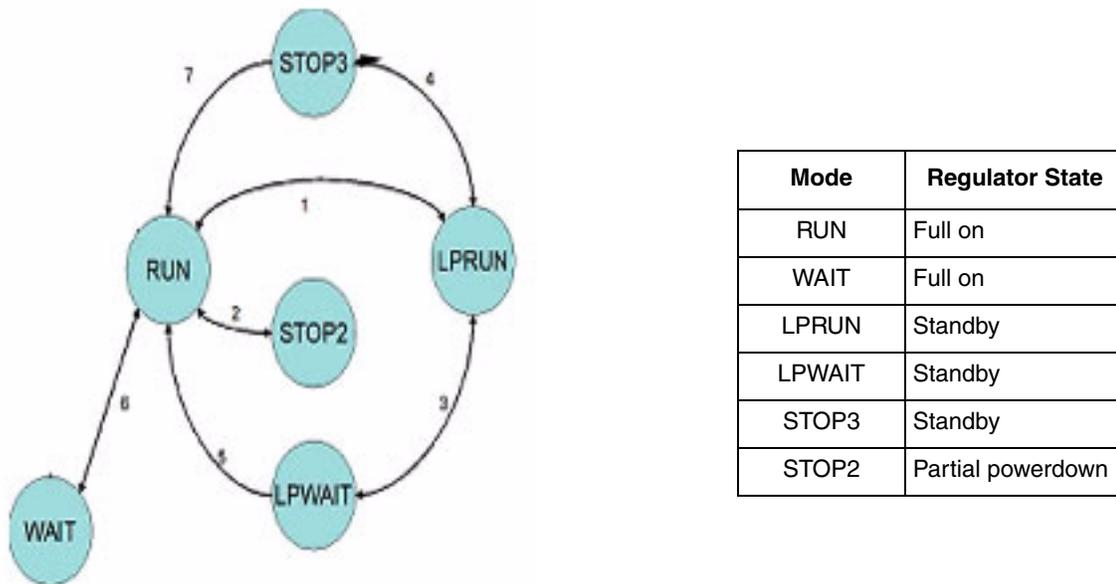

Figure 3-1. Allowable Power Mode Transitions for the MC9S08LL16 Series
Figure 3-1 illustrates mode state transitions allowed between the legal states shown in Table 3-1. PTB2/ $\overline{\text{RESET}}$  must be asserted low or a TOD interrupt must occur to exit STOP2. Interrupts suffice for the other STOP and WAIT modes.
Table 3-3 defines triggers for the various state transitions shown in Figure 3-1.
Table 3-3. Triggers for Transitions Shown in Figure 3-1.
**Table 3-3. Triggers for Transitions Shown in Figure 3-1.**